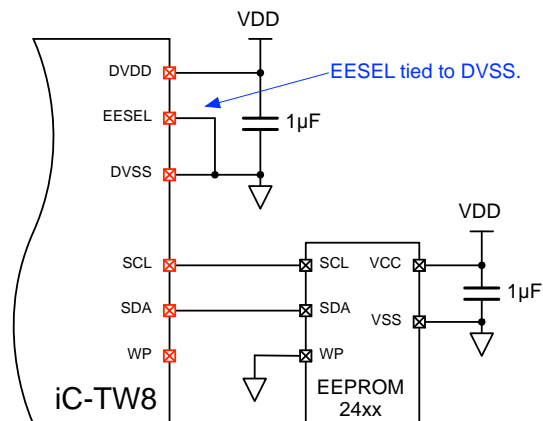

Figure 7: EEPROM Connection
The EEPROM connects directly to the iC-TW8 via a dedicated I²C communication channel using SCL (pin 27) and SDA (pin 28) as shown in Figure 7. No external pull-up resistors are required. EESSEL (pin 4) of the TW8 must also be connected to DVSS as shown.
In pin configuration mode, the Write Protect (WP) input of the EEPROM is not controlled by the iC-TW8. WP must be grounded (disabled) during configuration to allow the iC-TW8 to write the auto-adapted parameters to the EEPROM. In operation, WP can be left grounded (write protection disabled) as shown in Figure 7, or connected to DVDD by additional circuitry (such as a jumper) for parameter protection.